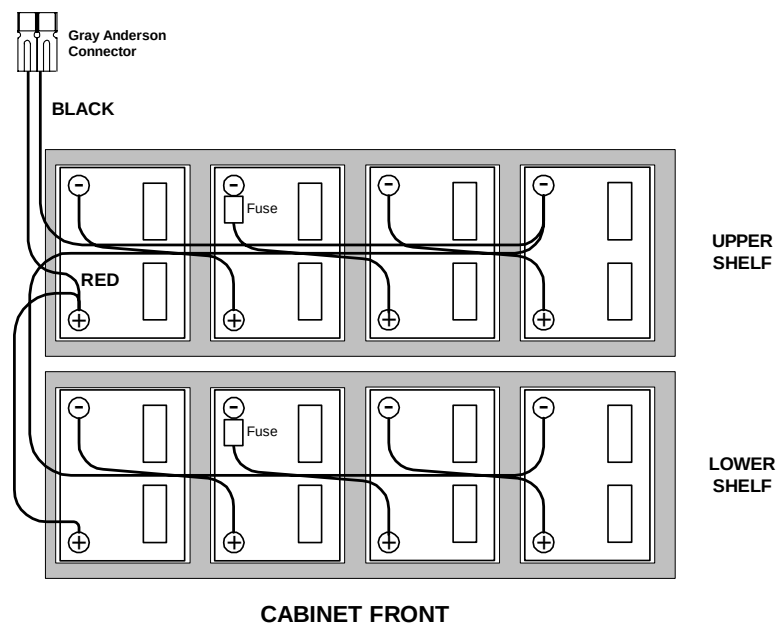

Fig. 3-7, 48V Battery Connections – parallel strings P/N 875-183-20
5. If the batteries are not installed, install them at this time per the instructions in Section 3.2. Connect the **battery sensing wire harness** to the appropriate battery terminals as shown in Figure 3-7 or 3-8. Use appropriate flat washers when connecting this harness to small battery terminals. Plug the connector from the **battery sensing harness** into the mating connector on the **CPR™ Communicator Module** at the front of the power supply module.